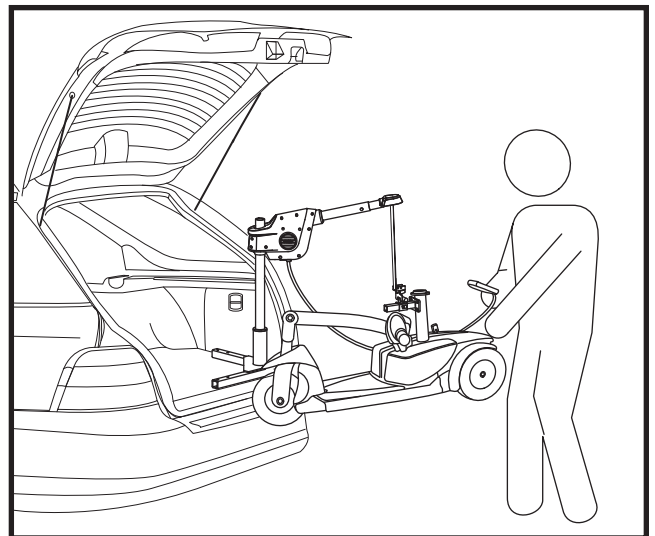

Figure 19. Lifting the Mobility product
9. Once the mobility product is raised high enough to fit into the vehicle, stop the lift. **See figure 19.**